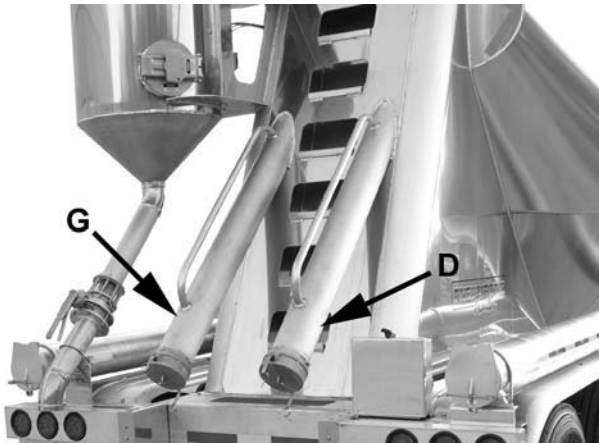
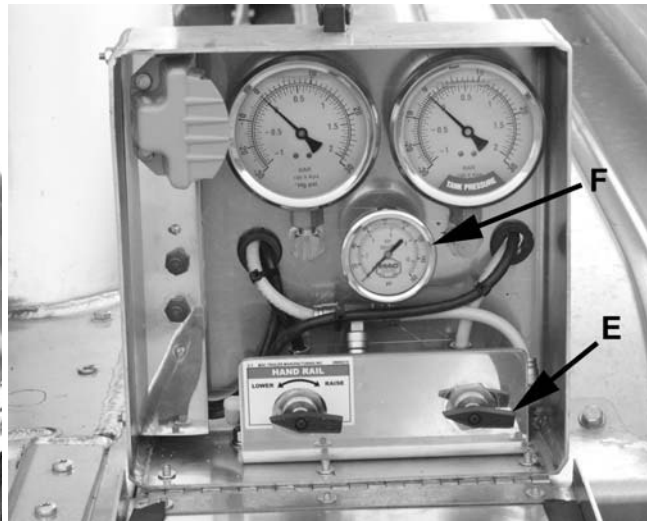

Figure 5-9 – Vacuum Tubes
Figure 5-10 – Control Box
5. Remove dust cap from vacuum tube (D) and connect supply hose to tube (D). See Figure 5-9.
6. Turn control (E) to open filter actuator valve. See Figure 5-10.
8. Monitor load gauge (F) on the control panel. See Figure 5-10. When load gauge indicates the desired pressure for forward hopper loading, disengage blower and move supply hose to vacuum tube (G). Install dust cap on vacuum tube (D). See Figure 5-9.
10. Install dust cap on both vacuum tube (G).
11. Close filter actuator valve (E).